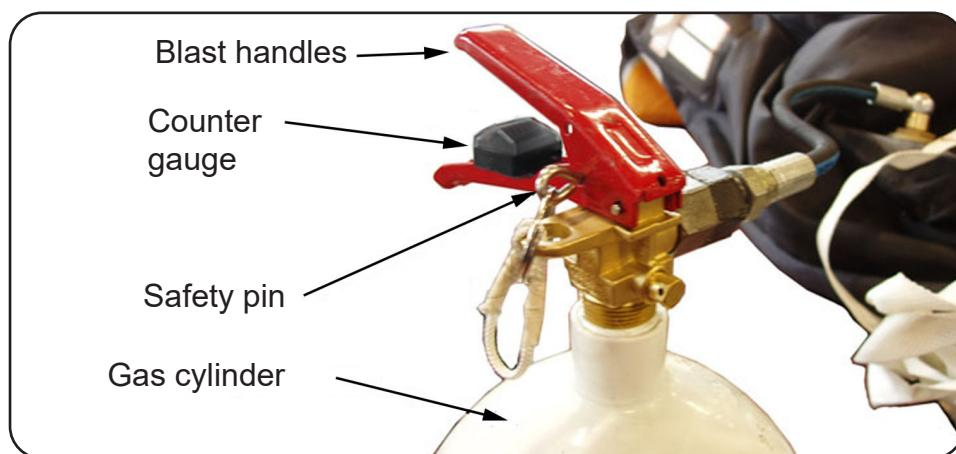

FIGURE 510
- (v) Connect one HP hose at a time, to the fitting on the blast test cylinder valve. Refer to FIGURE 510 / 511. The correct torque value for this hose attachment can be found in Chapter 1, DESCRIPTION AND DATA, TABLE 101, Torque Settings.